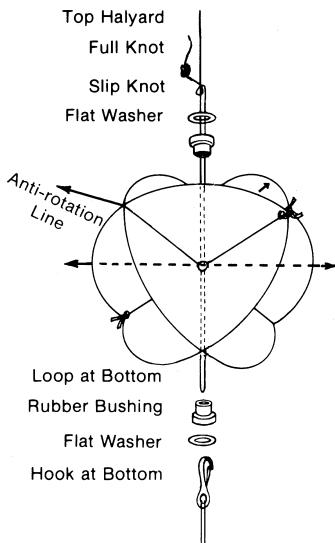

Figure 1.
1. Place assembled radar reflector on a flat surface with **arrow in top corner**, as shown in Figure 1.
Continuous and rapid rotation, however, can damage or break the support lines. To prevent this, attach light line from a corner or the center of the radar reflector to any convenient side point, as shown in Figure 1.